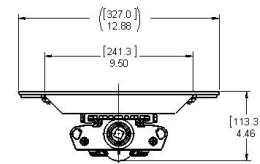

Figure 6. MP1054MTK Kit MagnaPro Mount Kit Installation
3. Mark and drill holes to install brackets to wall or ceiling with two (2) 1/4" bolts (not supplied). For MagnaPro, bracket holes may be spaced as required, it is recommended to keep them at least 12" (305mm) apart (see Figure 6).